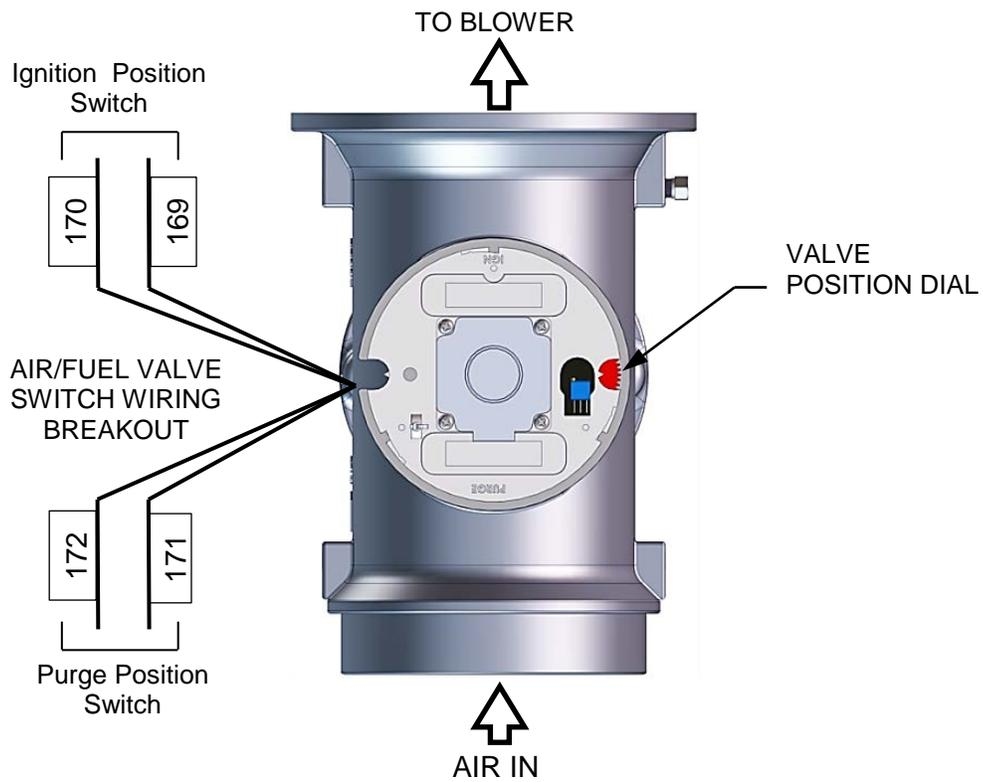

Figure 5-11a: Air/Fuel Purge and Ignition Locations– BMK 1500 – 3000
4. Remove one of the two wires (#171 or #172) from the Purge switch (Figure 5-11a and 5-11b).
4. Remove one of the two wires (#169 or #170) from the Ignition switch (see Figure 5-11a or 5-11b, above).